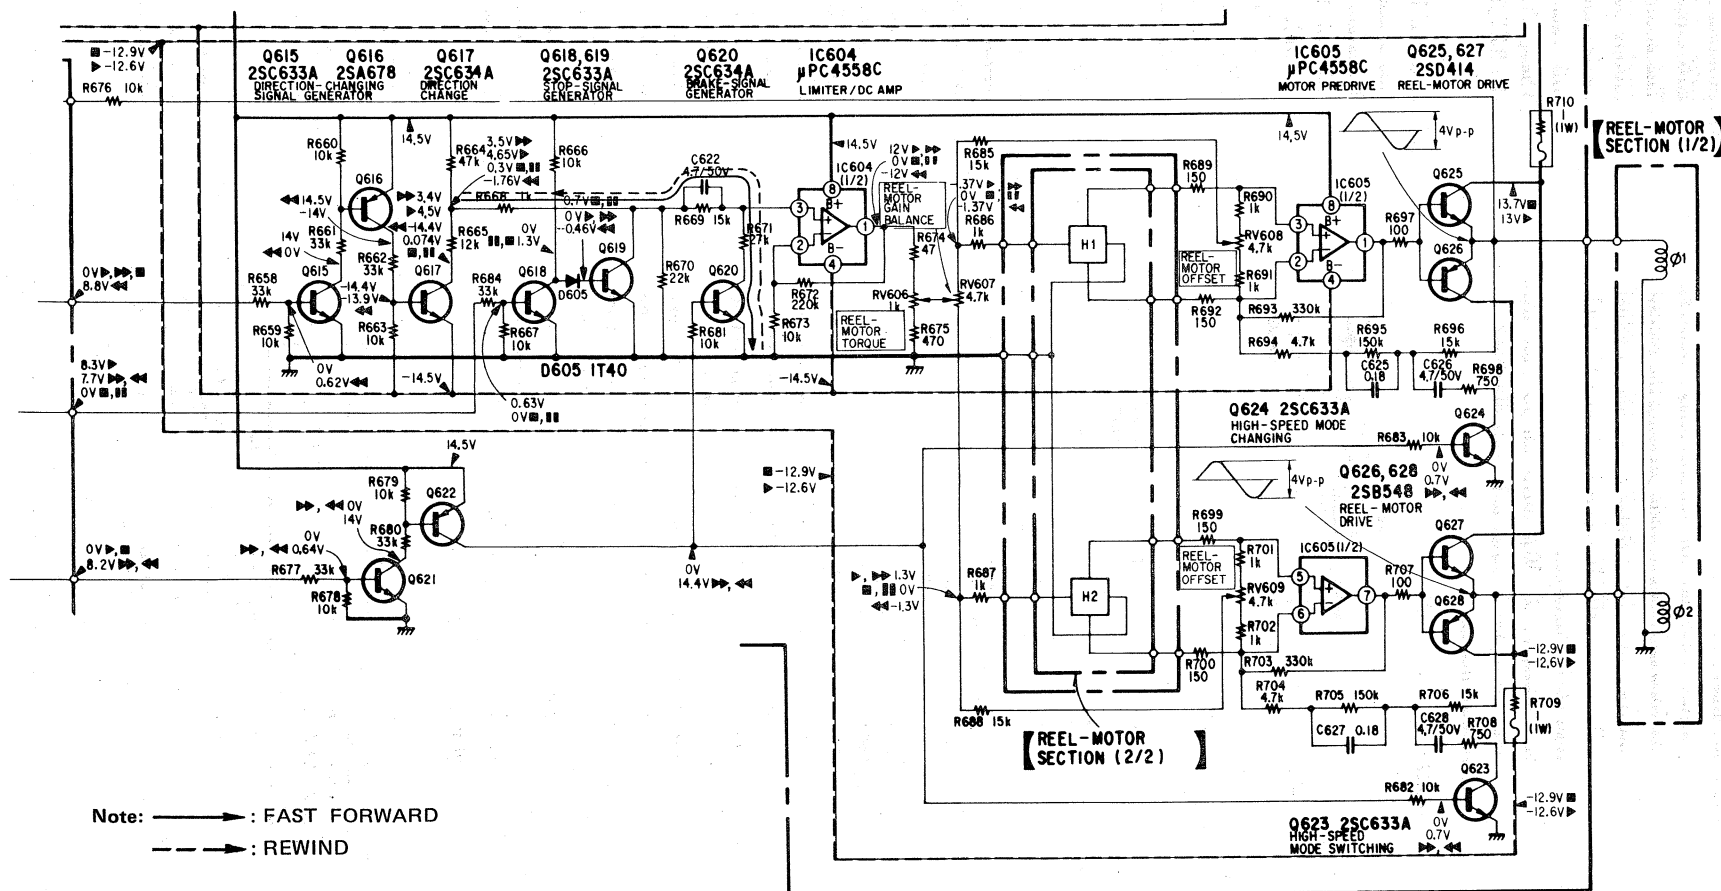

Fig. 21
5. Electromagnetic brake for reel motor during fast-forward and rewind modes (See Fig. 21)